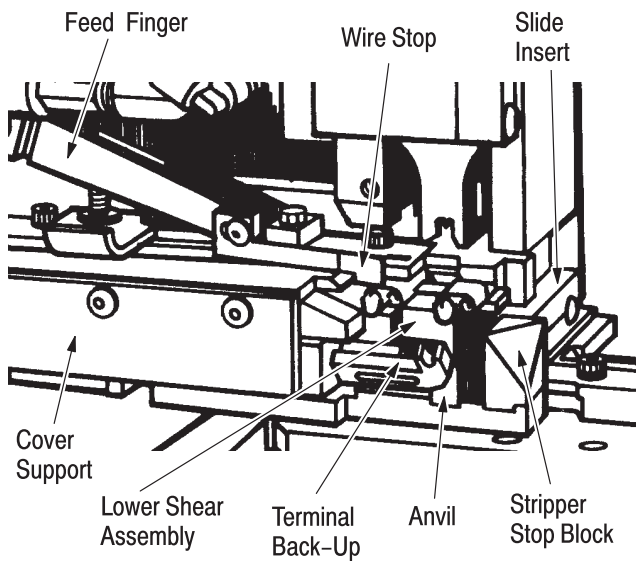

Figure 5
The lower tooling comprises shear plates, the insertion slide, the anvil, stripper stop block, and the terminal back-up. See Figure 5.
2. Pull back on terminal strip to be sure feed point is against feed finger. See Figure 5.
1. Wedge or block the feed finger so that it clears the rear strip guide. See Figure 5.